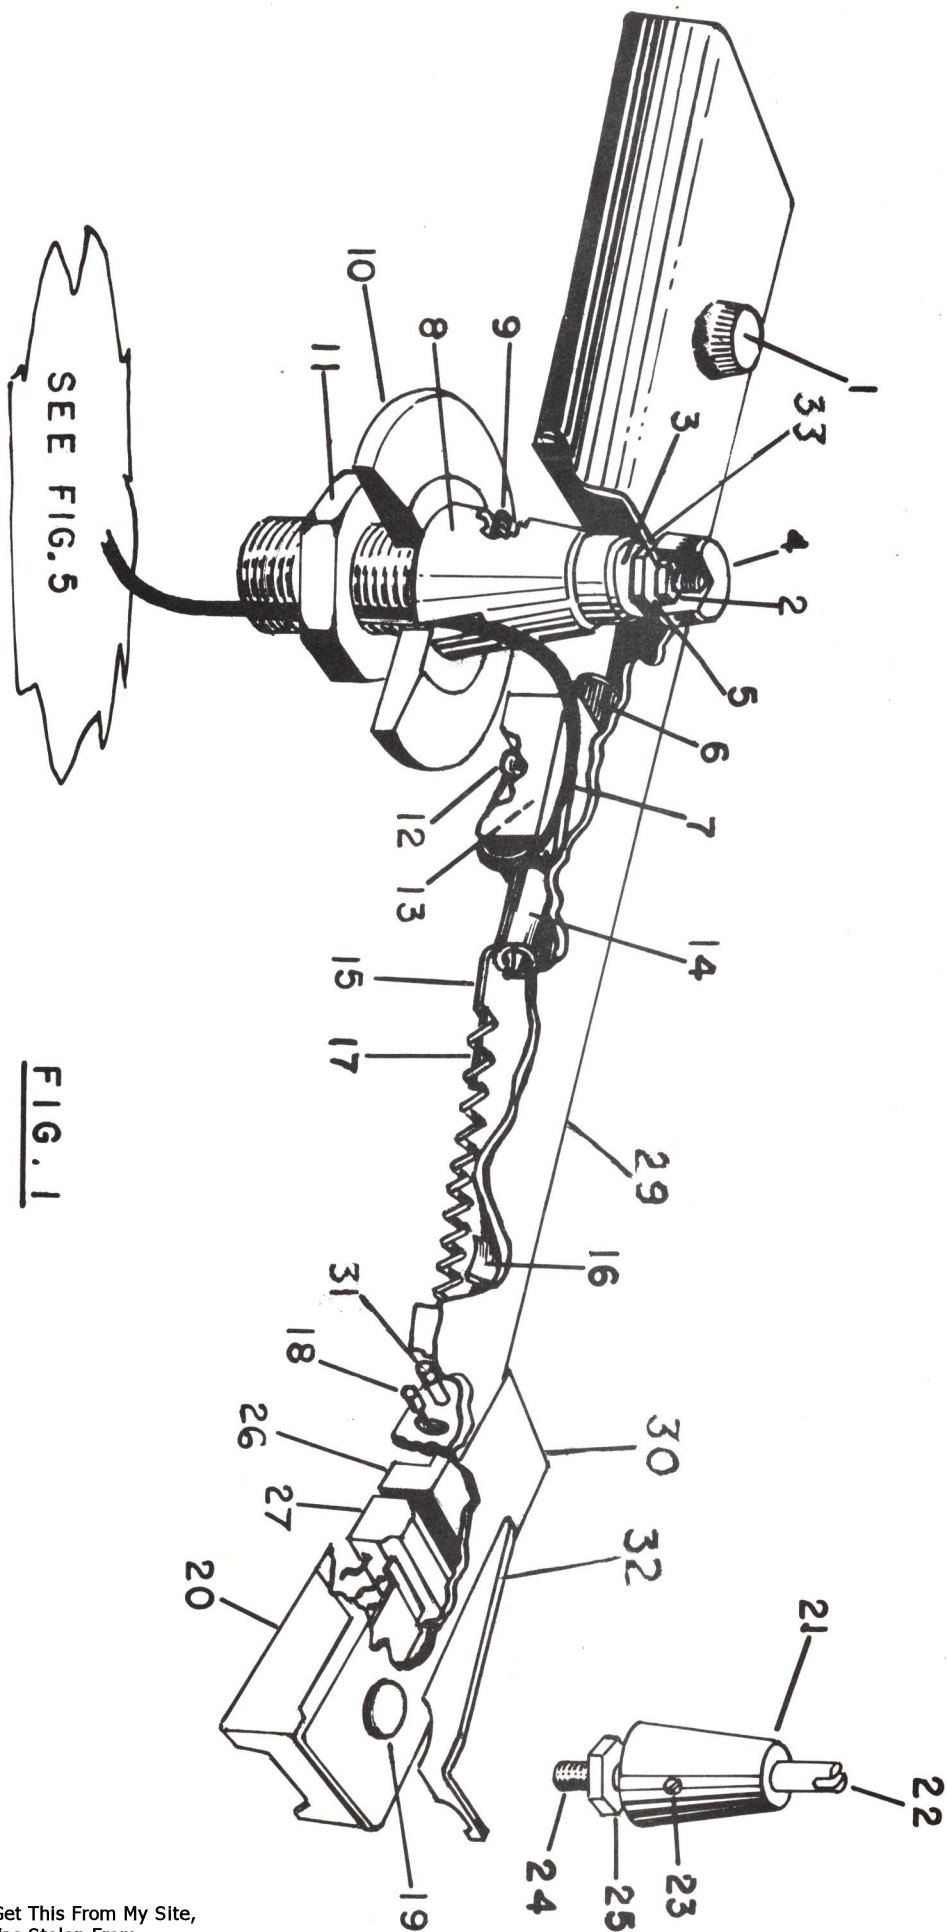

FIG. 1
- a. Remove cartridge slide (Item 20, Fig. 1) from arm by removing screws from cartridge mounting studs and pulling slide straight forward.
- f. With slide assembly and cartridge inserted in arm, hold arm by base so that arm is on side and check arm balance. After a few seconds, arm will come to rest. Determine if weight adjustment is required. If arm is approximately level, weight adjustment is satisfactory. If rear of arm is higher or lower than front of arm, loosen rear knurled screw (1, Fig. 1) and slide weight forward or to rear as required and re-check balance.
- b. Adjustment is made by loosening the base set screw (9, Fig. 1) and moving arm up or down as required. Hold the arm in correct position and tighten set screw.
- b. Insert plastic rod in top of arm rest, breaking off excessive length if necessary. Secure rod with set screw (Fig. 1).
The gram pressure of the stylus in the record groove is normally specified by the cartridge manufacturer (usually 3 to 8 grams for stereo discs.) The correct setting may be obtained by use of a stylus pressure gauge. Turn the knurled adjusting screw (6, Fig. 1) as required to increase or decrease stylus pressure.
INDEX TO FIGURE 1